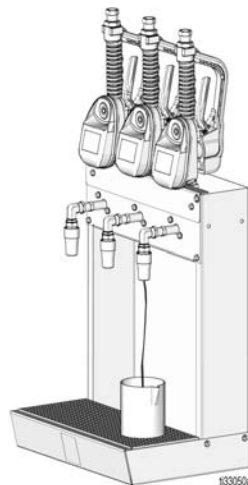

FIG. 18
2. Place a container under the drain valve on the oil bar (FIG. 18). Open the nozzle.
3. Pull trigger to dispense as much of the fluid remaining in the line as possible (FIG. 18).